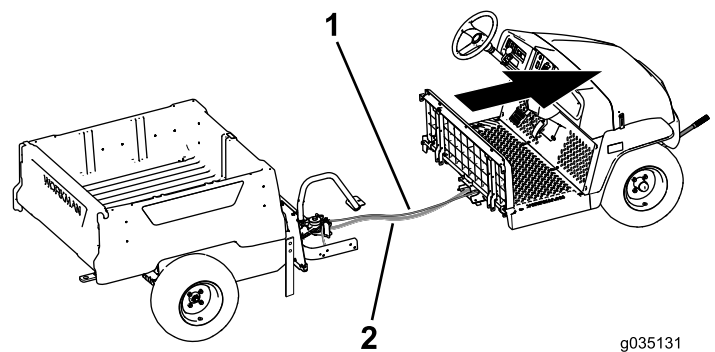

Figure 69
9. Have an assistant help you move the front section forward and away from the rear section (Figure 69).